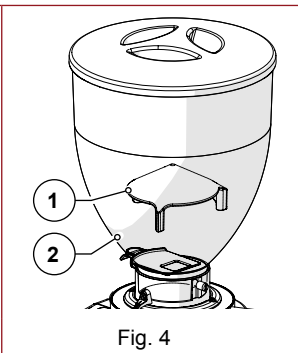

Fig. 4
- **Anti-intrusion device on coffee supply hopper (Fig. 4)**